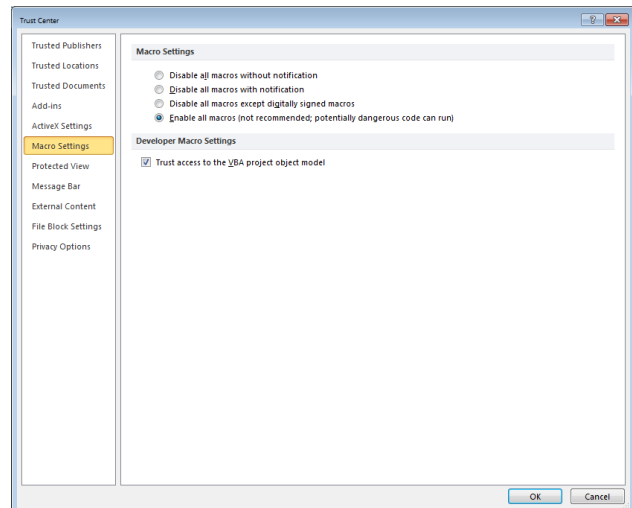

Figure 2. Macro settings in Excel
2. Click on “Macro Settings” of the trust center window, the dialog in Figure 2 will display.